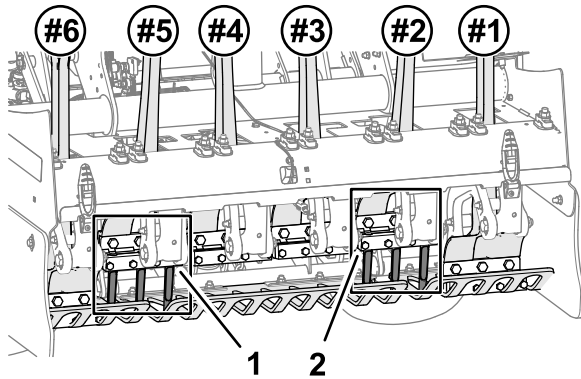
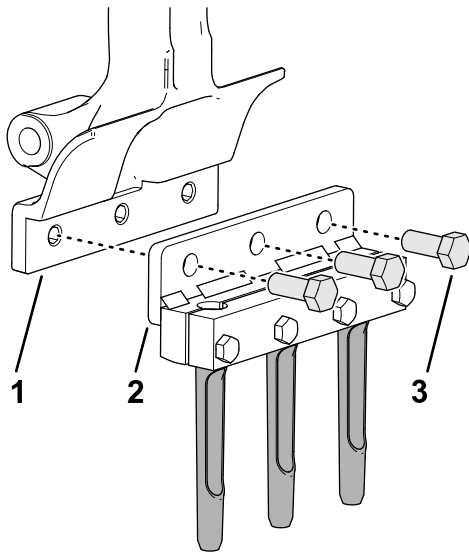

Figure 42
Figure 43
- Loosely assemble tine holder and tines to tine arm #2 (Figure 42 and Figure 43) with 3 bolts (1/2 x 1-1/4 inches).